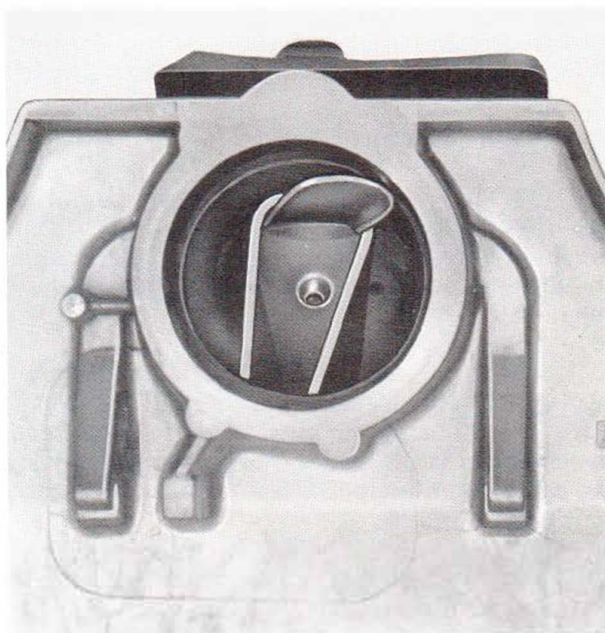
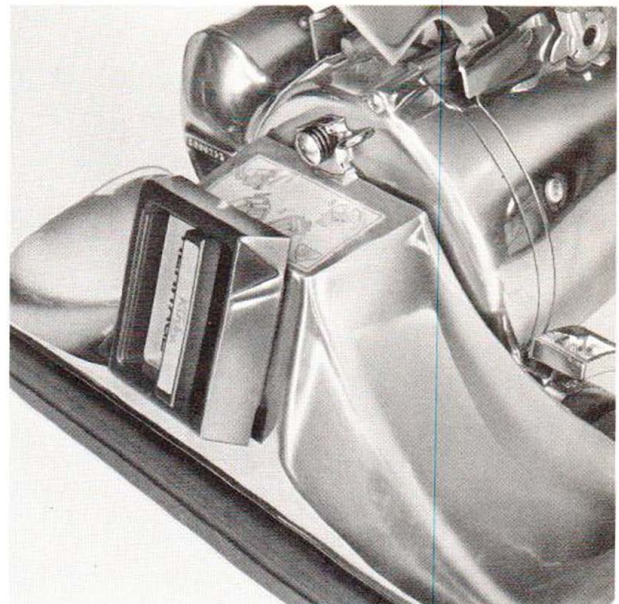

Figure 2-5. Belt lifter and lifter hook in position
Figure 2-7. Belt lifter in BELT OFF position
BELT OFF mark on the right side of the label, as shown in figure 2-7. The belt lifter hook lifting flange should be in the top dead center position as shown in figure 2-5. If it is not, disassemble and reassemble properly.
(7) Replace the brush roll, rug plate, and belt as described in paragraph 2-3.
(8) With the belt in place, check that the belt is lifted properly as shown in figure 2-5.